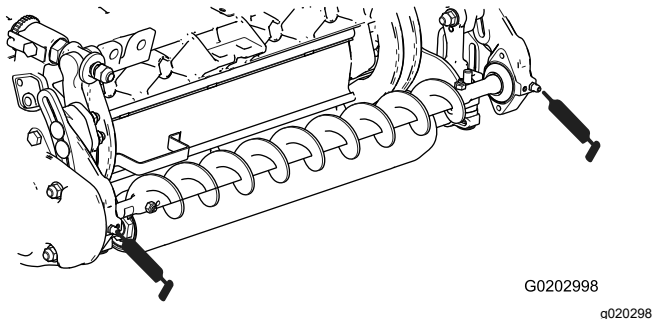

**Figure 16**
- Slide the belt cover onto the mounting bolts and secure it with 2 flange nuts (Figure 16).